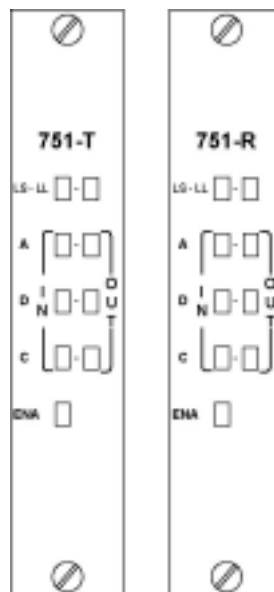

Figure 11. Front Panel LEDs
These indicator pairs are LASER (LS) and LEVEL/LOSS (LL), AUDIO IN/OUT, DATA IN/OUT, CONTACT IN/OUT, and ENABLED (ENA). See Figure 11. The operation of the front panel LEDs is described in the following paragraphs.